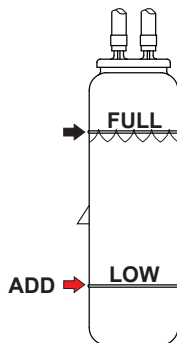

Figure 15. Coolant Recovery Tank
1. Verify that the coolant level in the coolant recovery tank is between the **FULL** and **LOW** markings as shown in Figure 15.